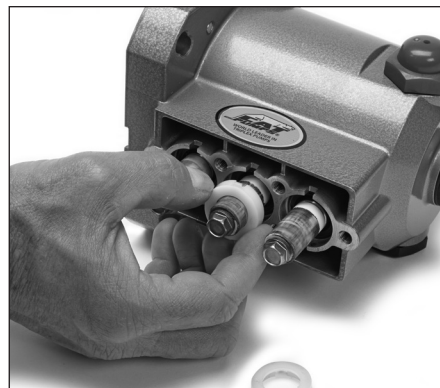

Figure 12
10. On pump series 4DNX and 4DX, slide white seal retainer with slotted openings to the top and bottom and facing the crankcase (See Figure 12).